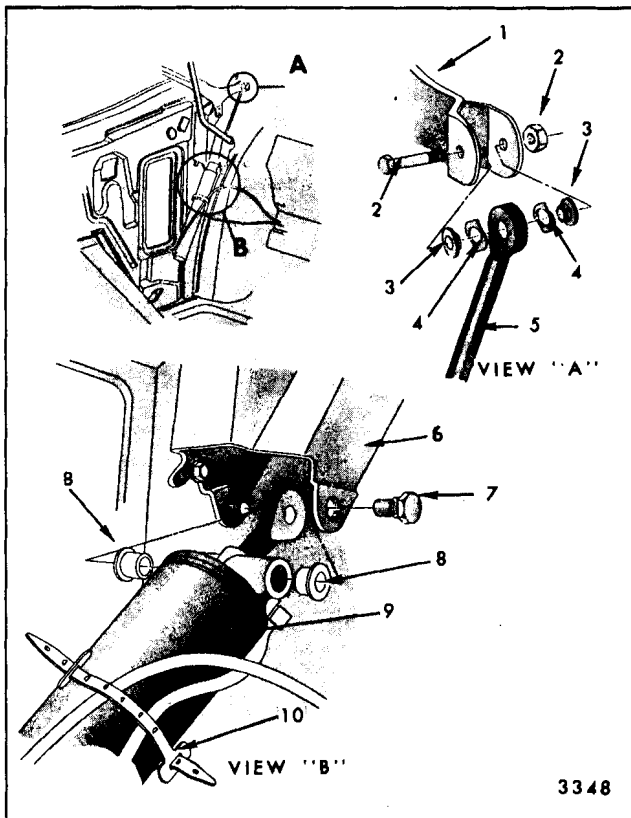

Fig. 12-28-Folding Top Lift Cylinder Attachment
7. Remove inner and outer bolt securing cylinder to male hinge (Fig. 12-28).